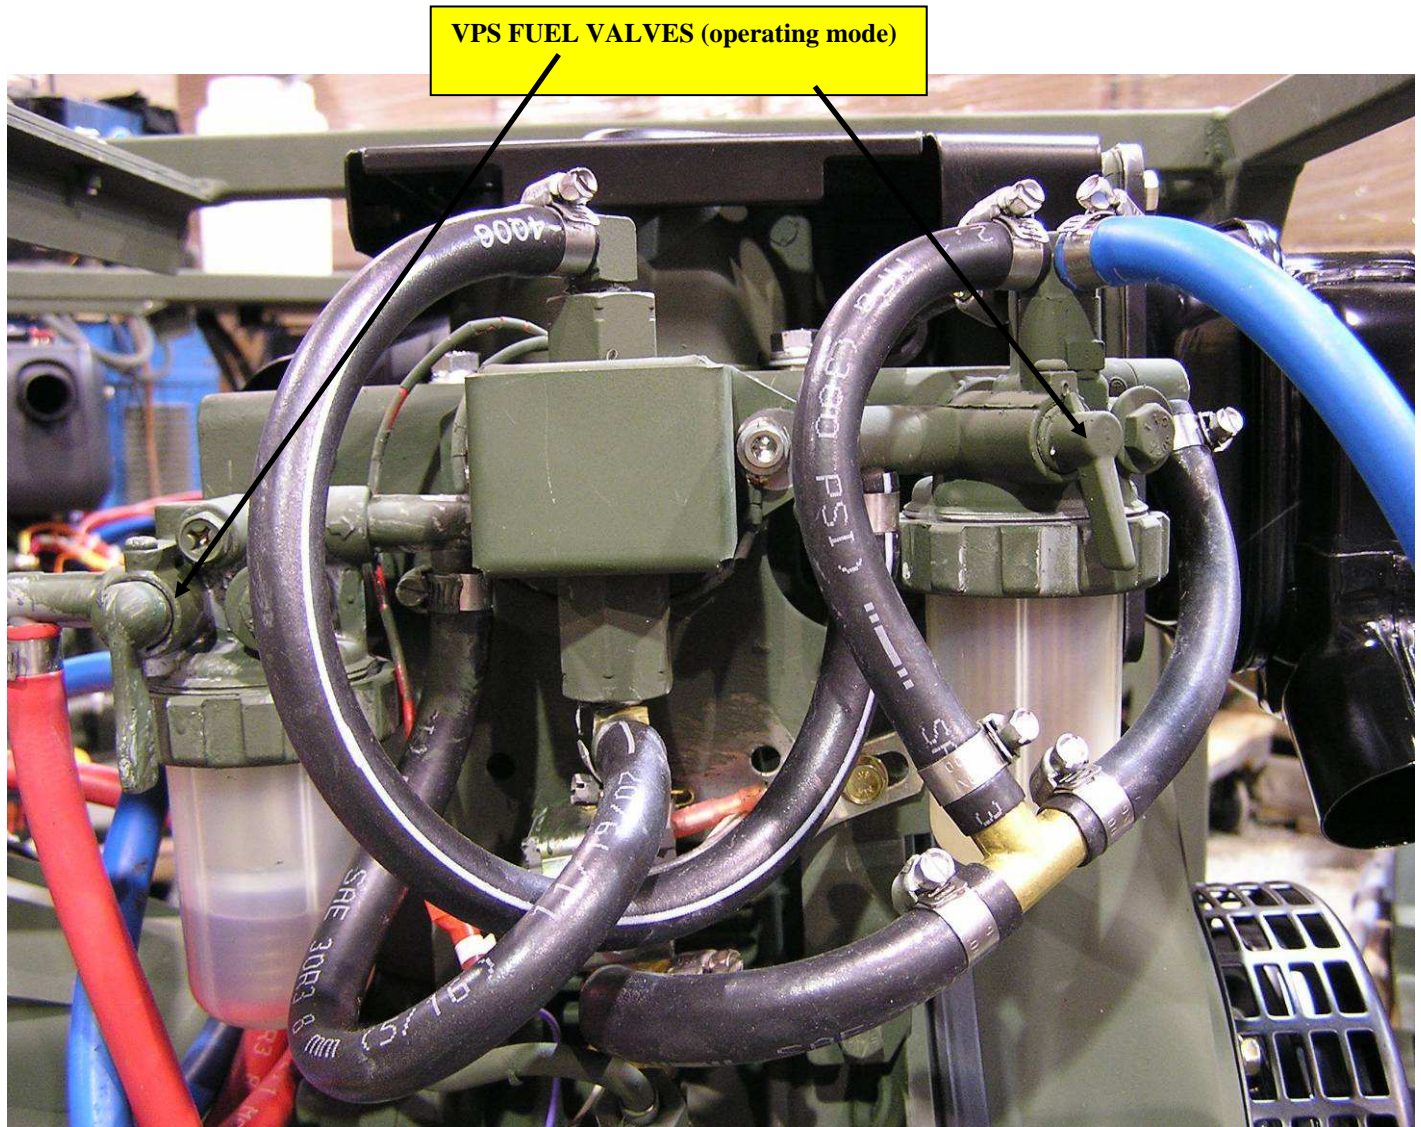

FIGURE 7 – VPS VALVES (OPERATION CONDITION)
1. Verify that the FUEL supply valves are set to Operating Mode. **Figure 7** shows the position of the valves.